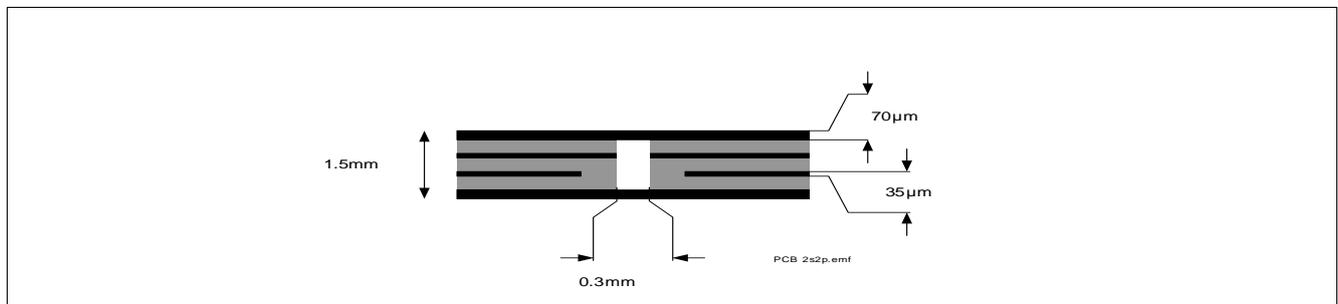
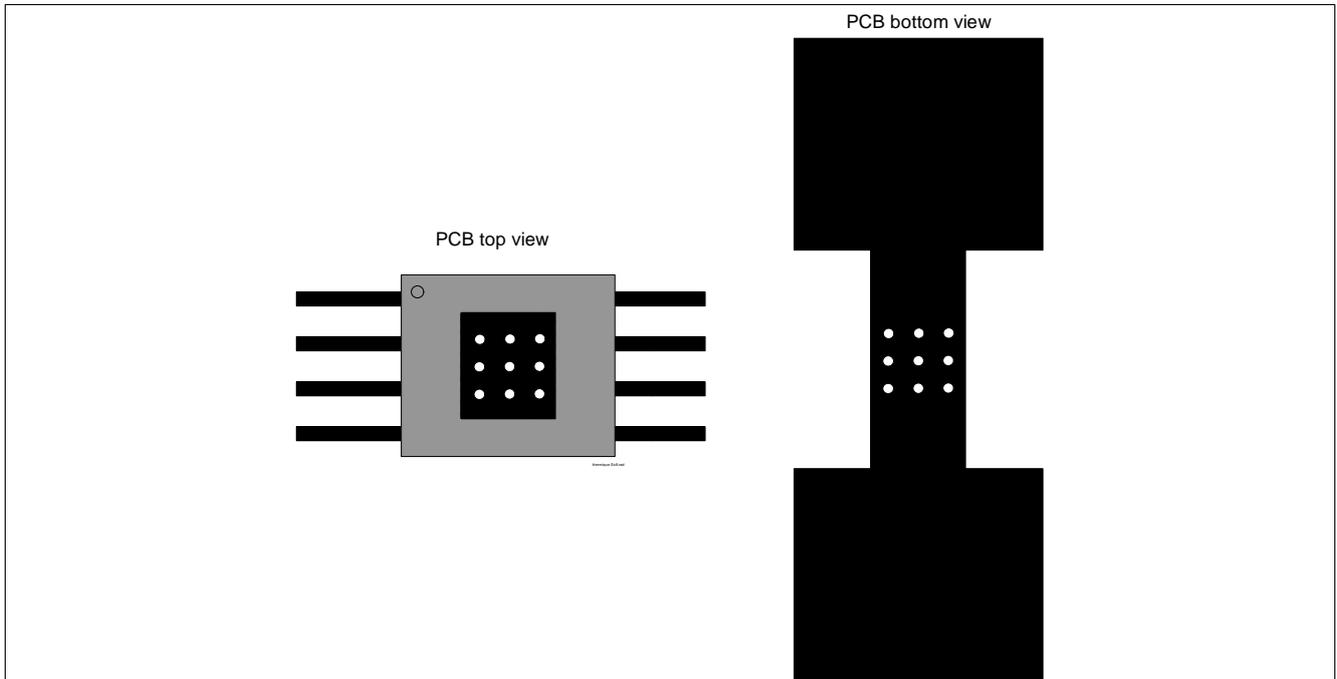

Figure 4 2s2p PCB Cross Section
Figure 5 PC Board Top and Bottom View for Thermal Simulation with 600 mm² Cooling Area
2) Specified R_{thja} value is according to JEDEC JESD51-2,-5,-7 at natural convection on FR4 2s2p board; The product (chip + package) was simulated on a 76.4 x 114.3 x 1.5 mm board with 2 inner copper layers (2 x 70µm Cu, 2 x 35 µm Cu). Where applicable, a thermal via array under the exposed pad contacts the first inner copper layer. Please refer to Figure 4 and Figure 5.